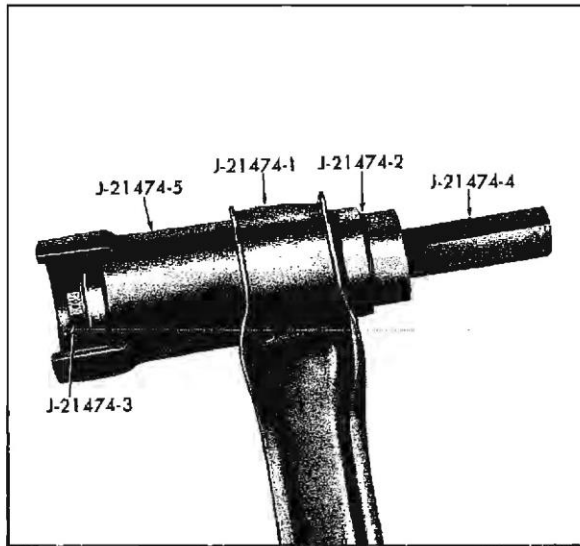

Fig. 3-28 Removing Bushing
2. Support arm and remove bushing, using tool J-21474 as shown in Fig. 3-28.